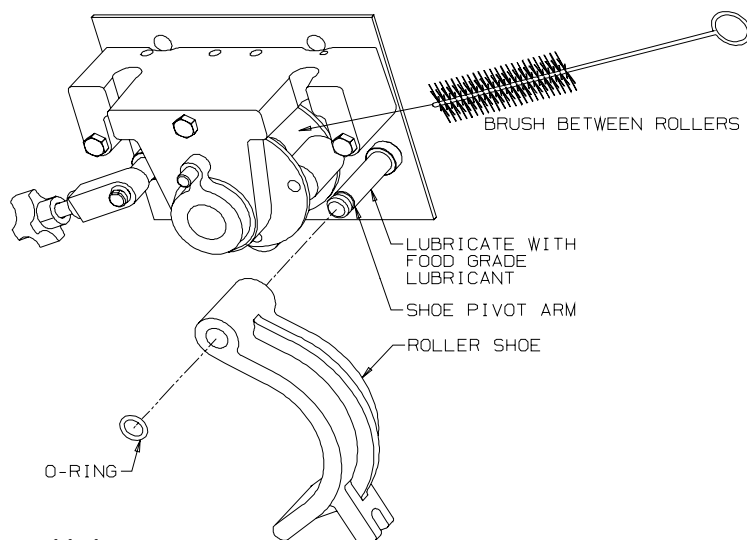

Figure 11-1
- g. Remove and clean shoe. See figure 11-1.